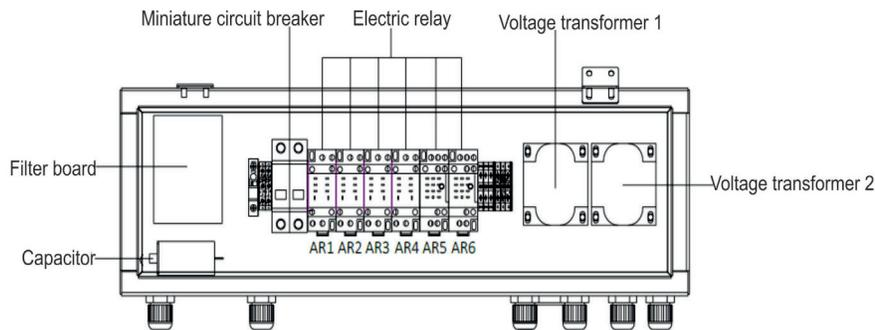
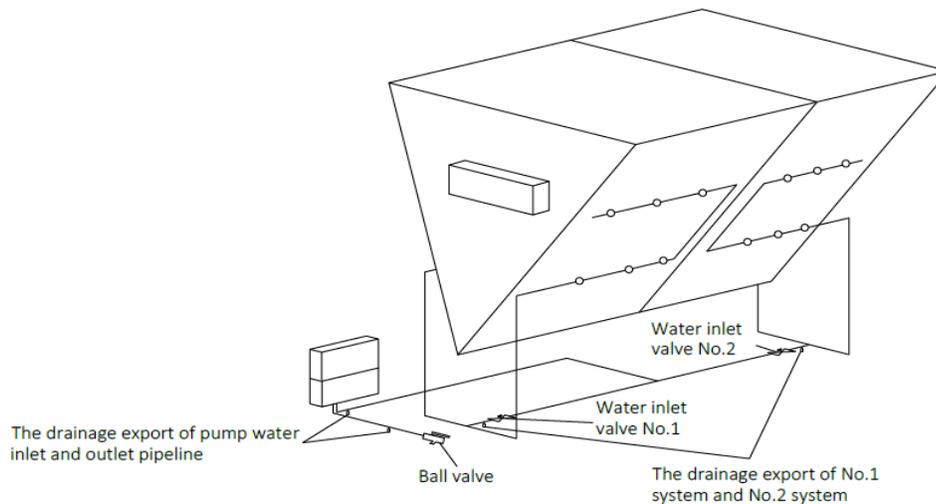

Figure 3-4 Electrical Control Box of Spray Cooling Module
Figure 3-5 Drainage Export of Spray Cooling Module
The main components of electric control box include miniature circuit breaker, electric relay, capacitance, filter board and voltage transformer. The appearance and position of electrical control box are shown in Figure 3-4.
3. Open the ball valve of spray cooling module as shown in Figure 3-4, then unscrew the drainage export of the pump water inlet & outlet pipeline connected with the drainage export of No.1 & No.2 systems and pressure gauge, then measure required the water pressure is between 0.5- 3.0 bar.
5. Close the 'Miniature circuit breaker' of the spray cooling module of the condenser No.1 system and No.2 system as shown in Figure 3-4. Enter to the configuration menu interface of the control board, set the setting value of the No.1 system and No.2 system parameters in the controller C44 to 1, and value of C45 to 1.
Close the ball valve and miniature circuit breaker (see Figure 3-4) of the spray cooling module, unscrew the drainage export of the pump water inlet and outlet pipe, unscrew the drainage export of the No.1 system and No.2 system (as shown in Figure 3-5). Drain the water of spray cooling module, so that compressed air can be used to blow the residual water.